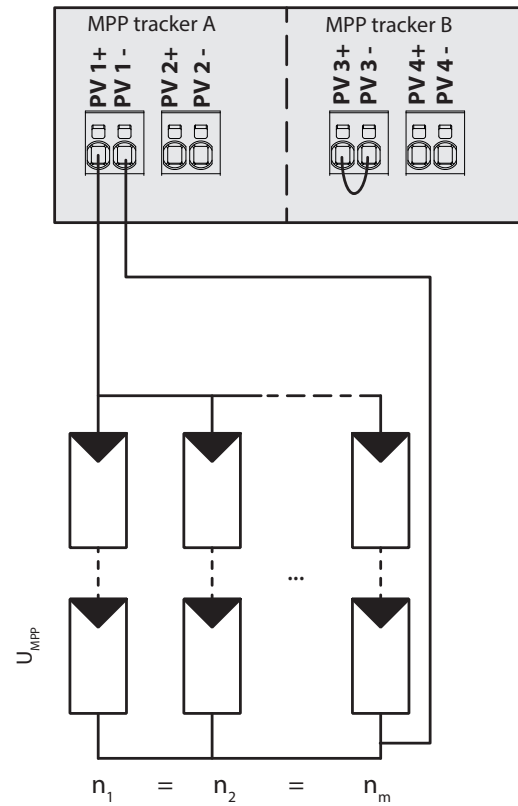

Figure 17: Parallel input connection with Y adapter, short circuit of MPP tracker B\*
**NOTICE (see Figure 17 on page 24)**